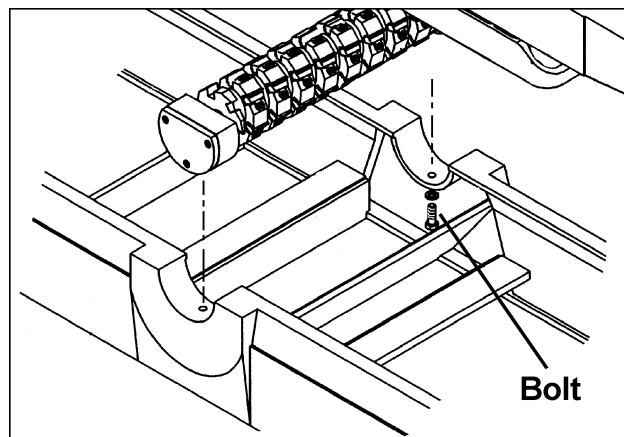

FIGURE 25
5. Loosen the two bolts that hold the cutterhead to the bed – these are accessed from the underside of the bearing blocks as shown in Figure 25.